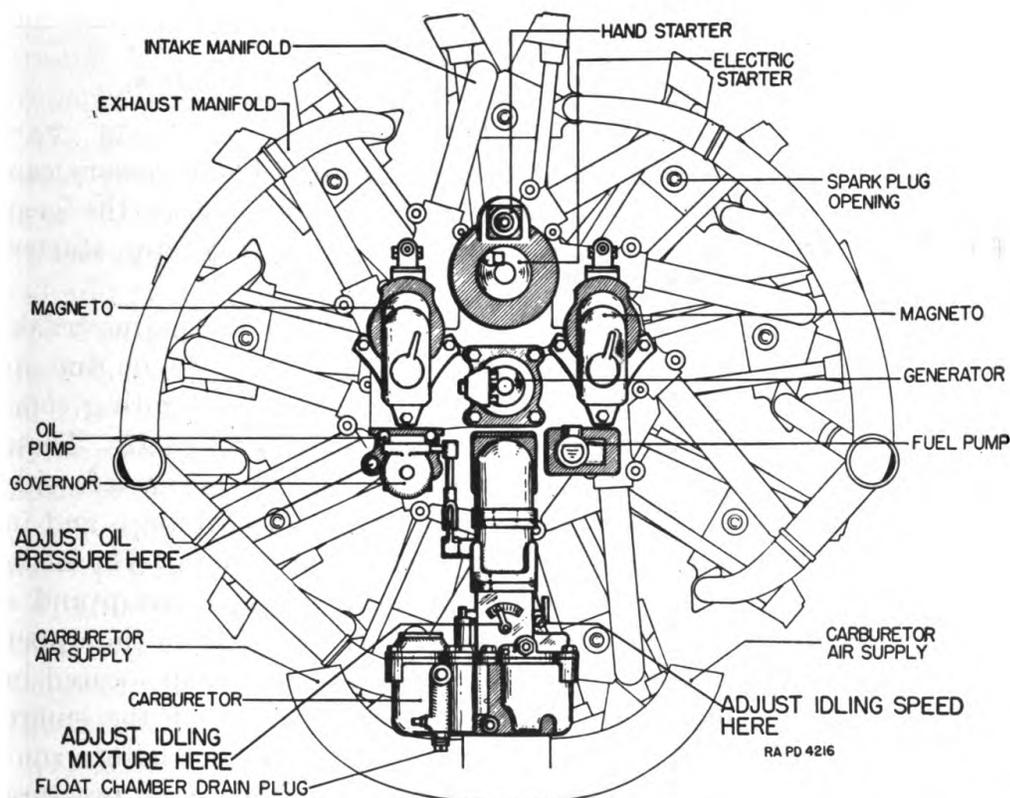

FIGURE 22.—Engine, showing accessories, adjustment of carburetor, and oil pressure.
42. General description (fig. 22).—*a.* The Wright Whirlwind R-975-EC2, a single row, air-cooled, radial, aviation type engine, is used.
b. The two magnetos, starter, generator, and fuel pump are mounted on the rear face of the rear crankcase section (fig. 22). The carburetor is mounted on the extreme lower end of the rear section.
46. Oil pumps (fig. 22).—*a.* The supply of oil in the engine crankcase is maintained by oil pumps which draw oil from the engine oil tanks located at the bulkhead between the engine and fighting compartments, or which circulate the oil within the engine itself. These are gear type pumps which are supported on the lower left side of the rear crankcase section in the case of the main pump, and in the nose section in the case of the other scavenge pump. The main pump is divided into two sections: a separate pressure pump and a scavenge pump. This scavenge pump returns the oil from the upper section of the sump to the oil filter. The scavenge pump located in the nose section removes oil from the lower section of the sump. Both return lines from the scavenge pumps join together before running into the Cuno filter. The main oil pump incorporates a pressure relief valve which comprises a spring-loaded ball that rises when the desired pressure is reached and allows the excess oil to be drained into the inlet side of the pump. Pressure regulation is accomplished by turning the adjusting screw clockwise to raise the pressure and counterclockwise to lower the pressure which raises or lowers the tension in the spring (see fig. 22). The oil pressure should be between 50 and 80 pounds per square inch in normal operation.
(1) Remove rear top plate.
(2) Remove mufflers and elbows by removing 4 bolts on each mounting elbow. The muffler can be disconnected from the engine exhaust manifold by unclamping the manifold connection and pushing the pipe on the manifold side up into the muffler in order to clear the two ends (see fig. 22).
- (1) Remove the terminal guard and disconnect leads.
- (2) All leads should be marked to identify their proper position for replacement.
- (3) Remove the four nuts holding the generator to the accessory case.
- (4) Loosen the generator retaining bracket nut and slide the generator to the rear.
54. Fuel pump (fig. 22).—*a. Description.*—The fuel pump is mounted on the engine accessory case to the right of the generator.
- (1) Close fuel shut-off valves. The two main valves are located in bulkhead below oil tank.
- (2) Remove cap screws and open rear doors to engine compartment.
- (3) Disconnect fuel lines attached to pump.
- (4) Remove locking wires and nuts holding the pump to the accessory case.
- (5) Remove pump.
- (6) To replace pump reverse the procedure.
55. Carburetor (fig. 22).—*a. Description.*—The carburetor is attached directly to the intake manifold in the bottom of the engine crankcase.